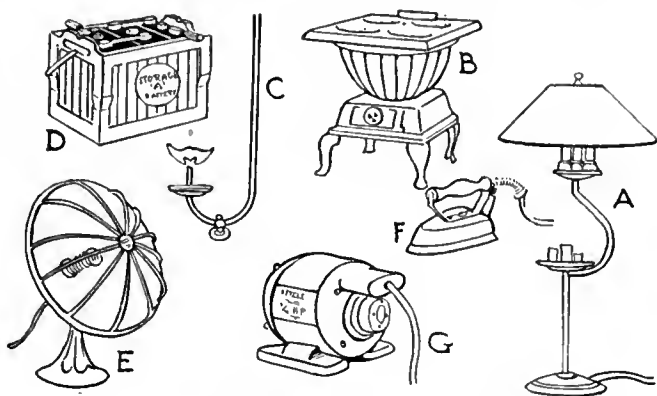

FIG. 284. COMMON ENERGY TRANSFORMERS
6. Figure 284 shows several devices which bring about energy changes. Each device is designated by a letter. Write the letters, and after each letter write the kind of energy change represented by that device.